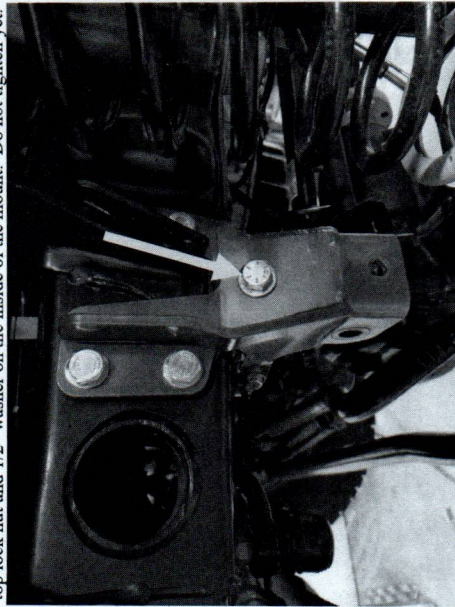

Figure 10. Installing Upper Track Bar Mount Hardware
10. Install one 1/2" x 1" long bolt and 1/2" washer into the upper side hole on the track bar bracket. Use one 1/2" top lock nut and 1/2" washer on the inside of the mount. Do not tighten yet. See Figure 10.